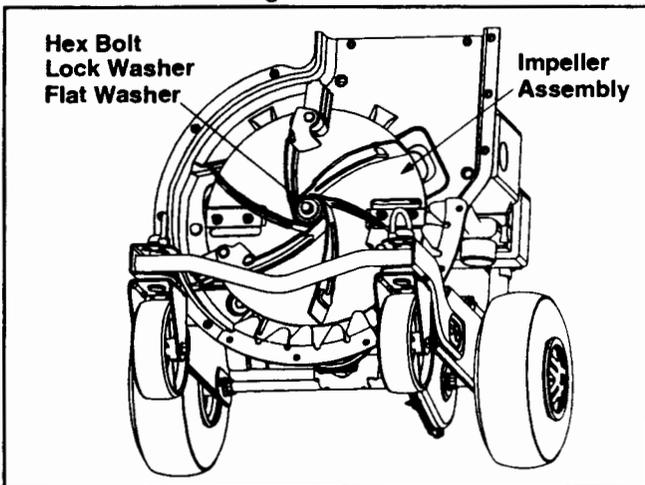

Figure 16
- Remove the hex bolt, lock washer, and flat washer that secures the impeller assembly to the crankshaft. See Figure 16.